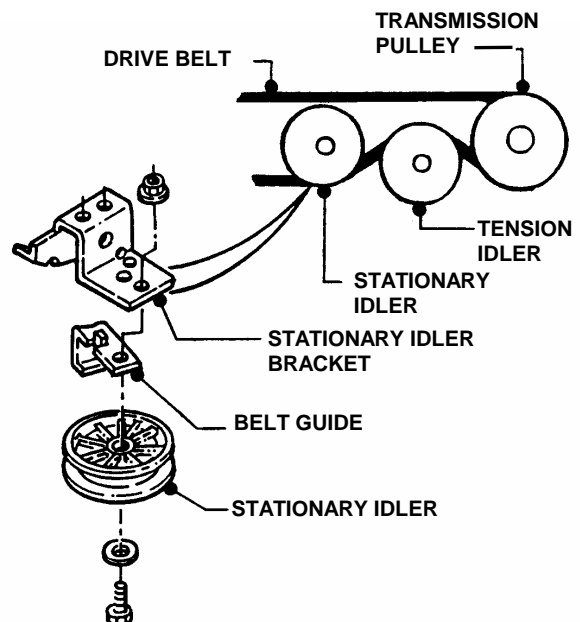

FIGURE 4.24
3. Route belt through stationary and tension idlers. See Figure 4.24.